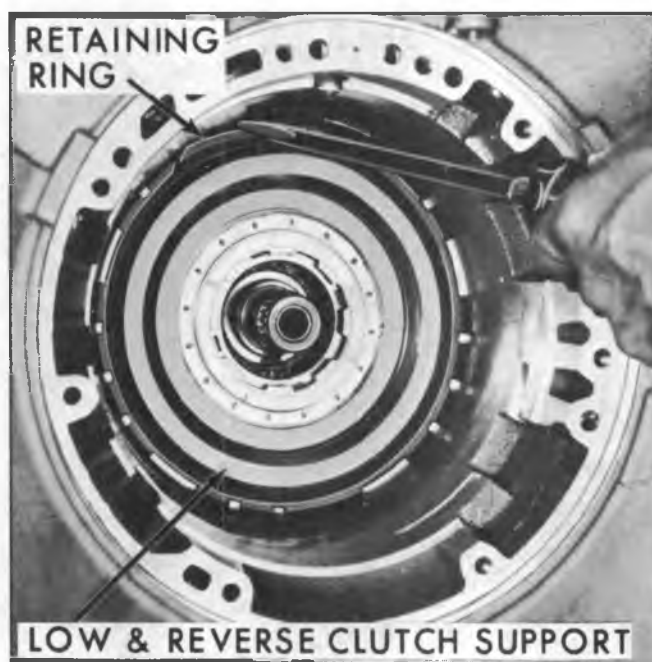

Fig. 40M--Removing Low and Reverse Clutch Support Retaining Ring
14. Remove low and reverse roller clutch support to case retaining ring (fig. 40M).